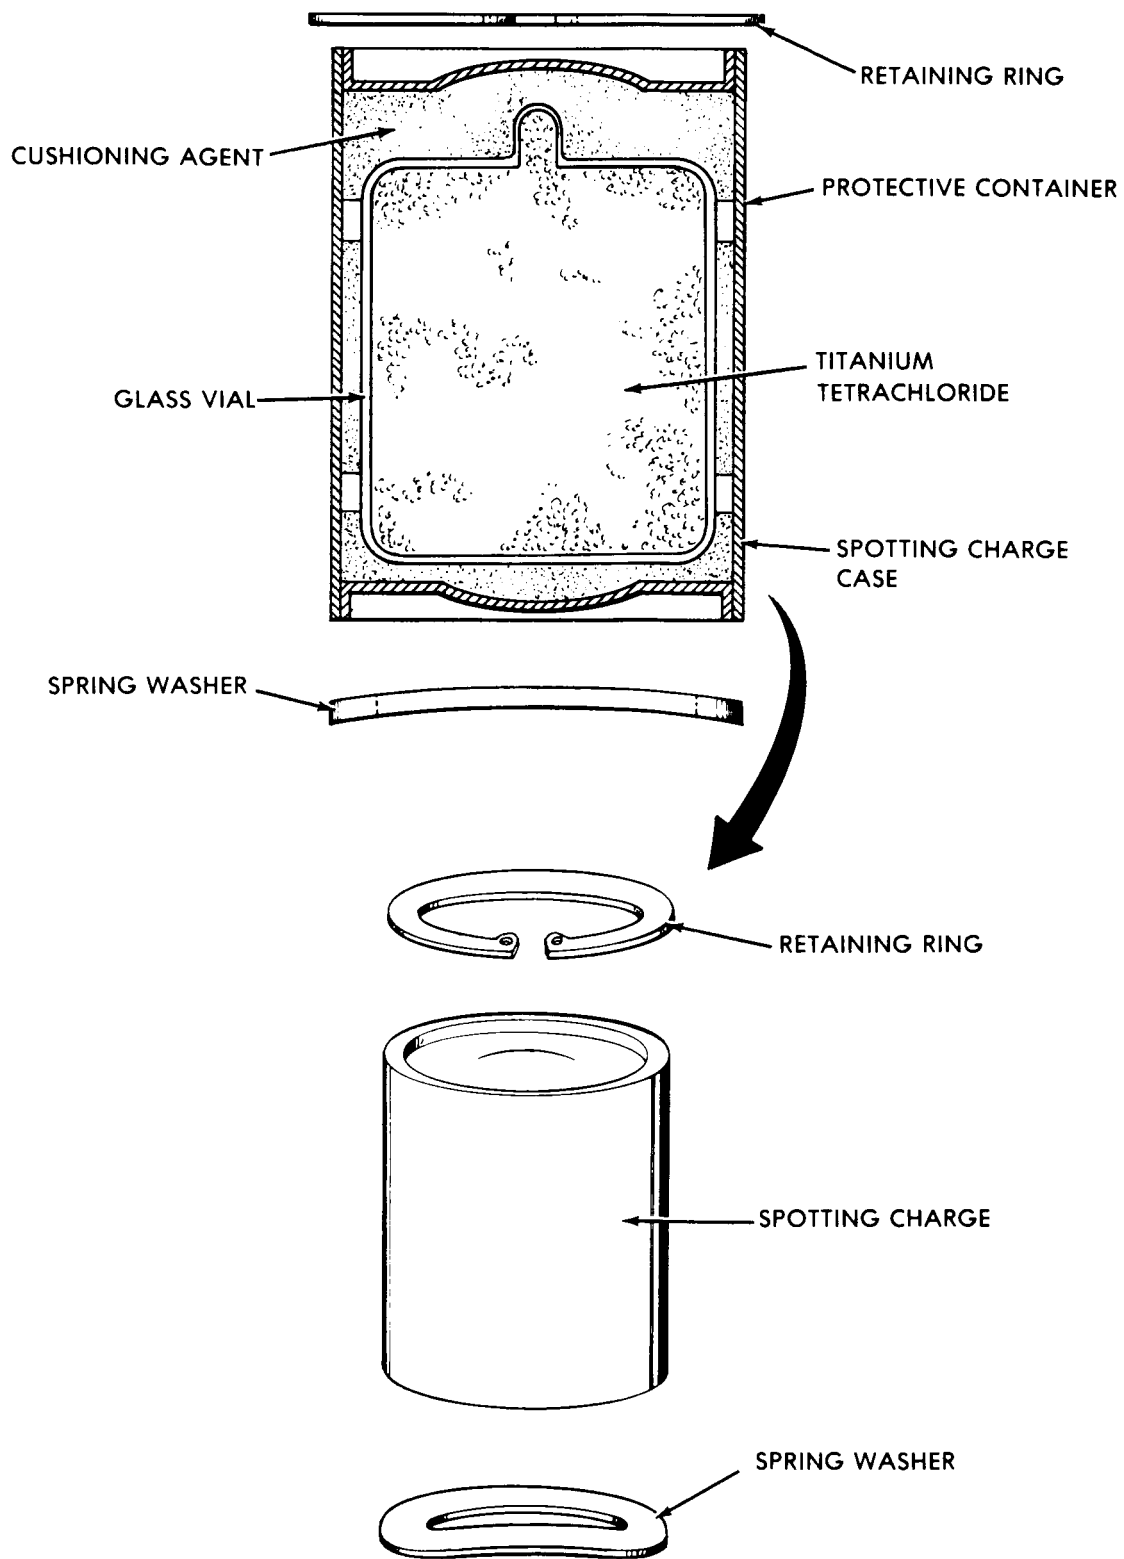

Figure 8-16. Spotting Charge CXU-4/B and Hardware
8-134. INTRODUCTION. Spotting charge CXU-4/B (figure 8-16) is a fire-free signal used with practice bomb BDU-45/B to provide visual indication of bomb impact point and fuze function.
2. Install spring washer (figure 8-16) at base of spotting charge receptacle.